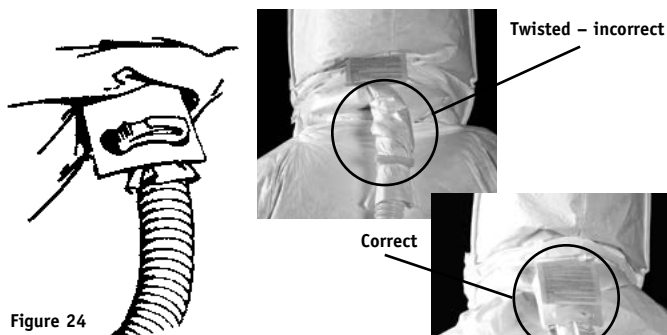

Figure 24
3. Install nylon clamp over air entry sleeve and breathing tube, inserting clamp locks through two holes in plastic anchor plate that is sewn into hood. Locks should face away from user's neck (see Figure 24). The air entry sleeve seams should be on the top and bottom of the breathing tube when properly installed and worn.